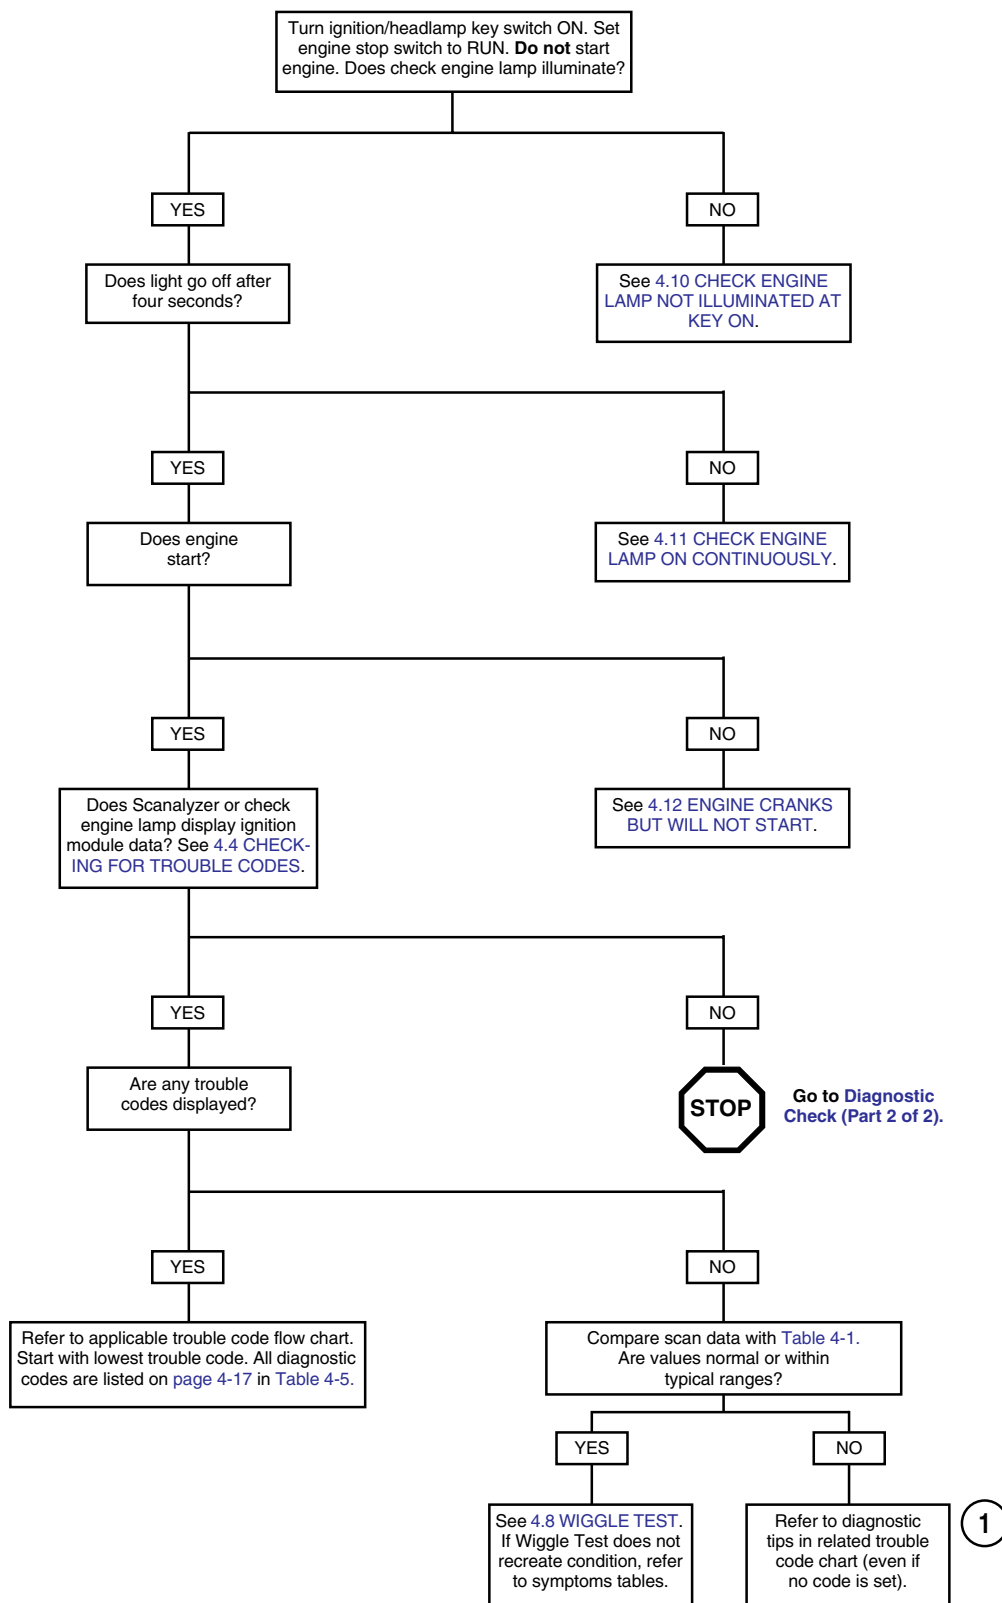

### Figure 4-17. Diagnostic Check
- If proper Scanalyzer function is verified, check data link connector [91A] for 12 volts (Terminal 4) and proper ground (Terminal 2). See **Figure 4-17**.
**Table 4-6. Wire Harness Connectors in Figure 4-17.**